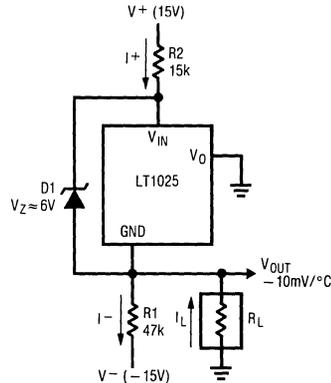

Figure 3
The LT1025 can be made to “stand on its head” to achieve a minus 10mV/°C output point. This is done as shown in Figure 3. The normal output (VO) is grounded and feedback is established between the ground pin and the positive supply pin by feeding both of them with currents while coupling them with a 6V zener. The ground pin will now be forced by feedback to generate -10mV/°C as long as the grounded output is supplying a net “source” current into ground. This condition is satisfied by selecting R1 such that the current through R1 (I-) is more than the sum of the LT1025 supply current, the maximum load current (IL), and the minimum zener current (≈50μA). R2 is then selected to supply more current than I-.